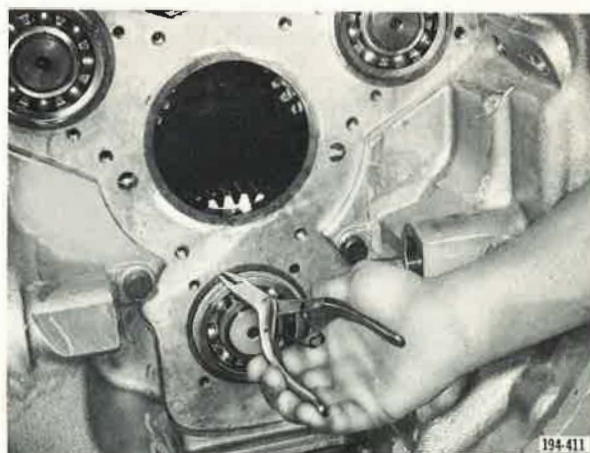

Figure 37. Installing Countershaft Front Bearing Positioning Snap Ring
2. Position front case horizontally. Install front countershaft ball bearing positioning snap rings in outer race of bearings, then tap countershaft assemblies rearward until positioning snap ring seats against case. See Figure 37.